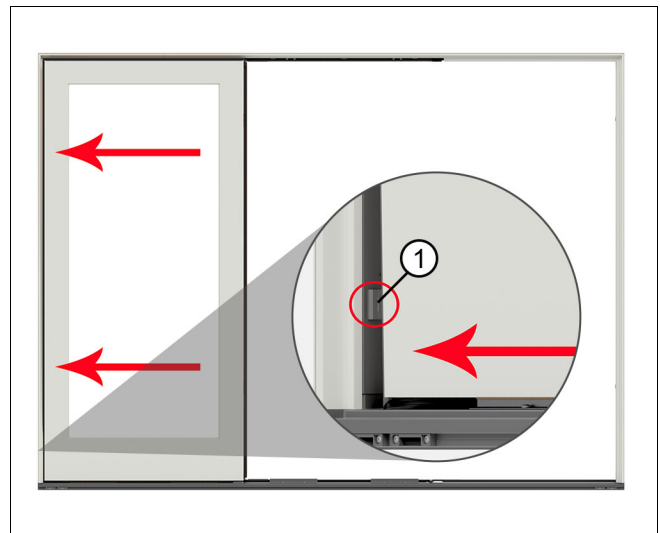

Figure 56
5. Slide the panel past the aluminum parting stop to the jamb. Now push the panel in until it contacts the wood parting stop. Clips at the head jamb will hold the panel in place and aid in alignment. See Figure 56.